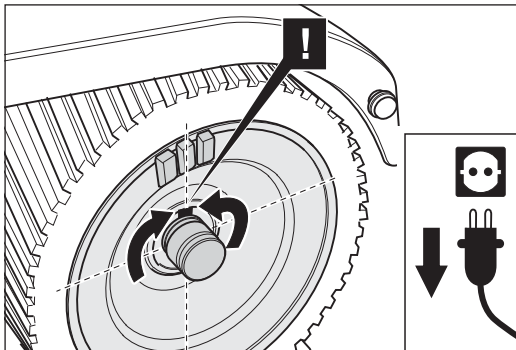

Fig. 49 Turn the sanding drum in such a way that the groove is pointing upwards, to ensure that the parallel key is not lost. **Similar to figure.**
- 6 Turn the sanding drum in such a way that the parallel key is pointing upwards to ensure that the parallel key is not lost (Fig. 49). Now pull the sanding drum out sideways out of the housing.